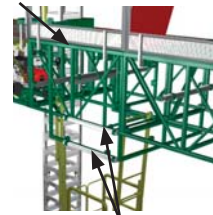

Fig. 7.18
- 5- Remove the two locking bars at the bottom of the bridge assembly and slide them into their storage location (fig. 7.18).